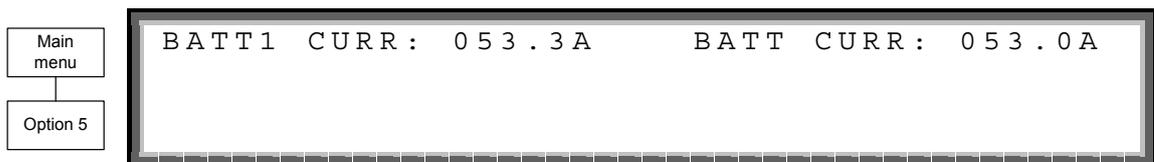

Figure 8-25: Battery current
**Note:** Figure 8-24, Figure 8-25, Figure 8-26 show the individual batteries on the left and the overall total on the right. In the examples shown above, only one battery is installed.